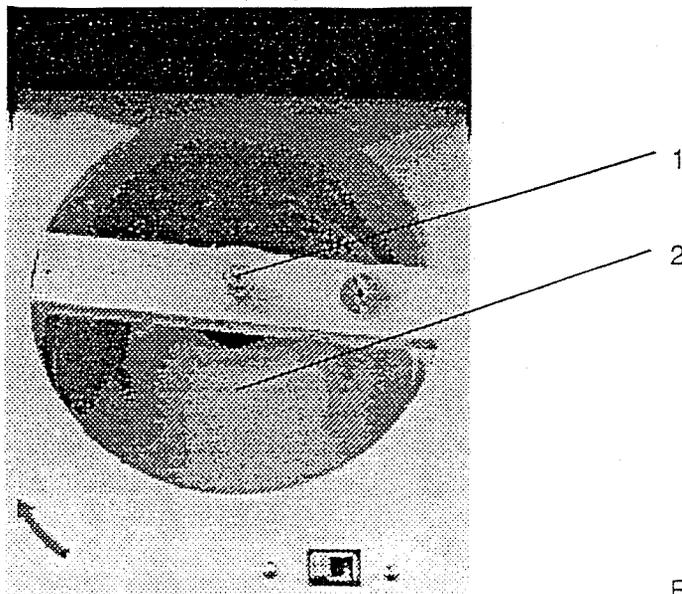

Figure 4
3. Remove the locking nut (1) on the motor shaft by turning clockwise and the transport protection out of the centrifuge bowl (2), (see figure 4).